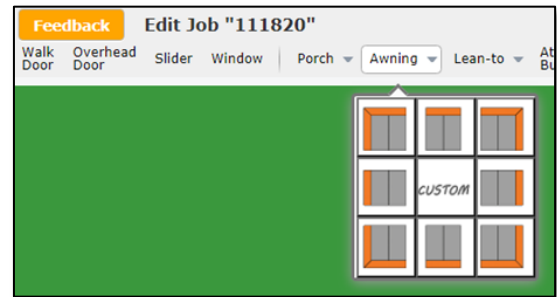
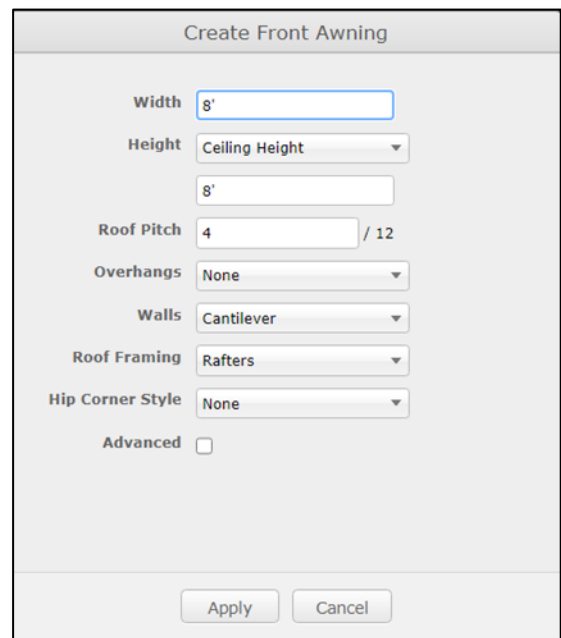

Figure 18: Select the building side on which to add a new Awning.
Figure 19: The dialog box for adding an Awning.
2. On the *Openings and Building Additions* toolbar at the top of the page, click on the Awning drop-down arrow and select the location where the Awning is to be placed. (See Figure 18, right.) There are nine options: Front Left, Front, Front Right, Left, Right, Back Left, Back, Back Right, and Custom. Once you click on your choice, the *Create [Location] Awning* dialog box will open, as pictured in Figure 19 below, right.